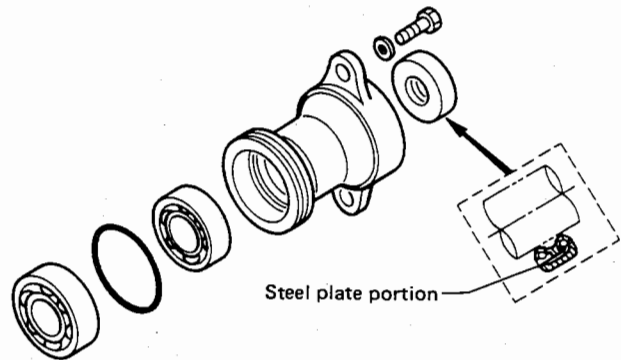

Fig.12.2
4. When inserting the oil seal, be sure that its steel plate portion is directed toward the gear case as shown in Fig.12.2.